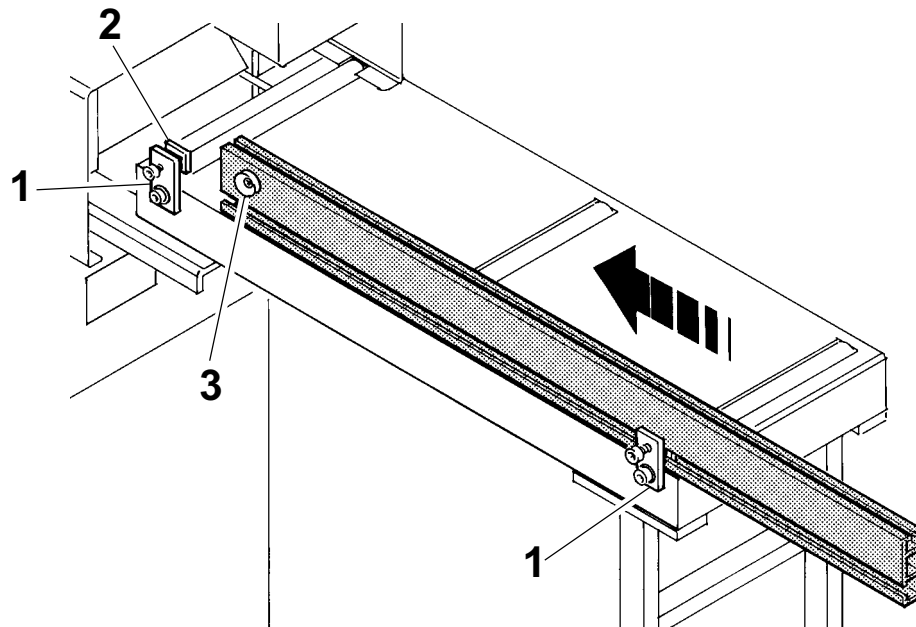

Fig. 4.2.4. Fitting the left-hand fence.
4.2.4 Fitting the left-hand fence (fig. 4.2.4)
- Undo the screws of the blocks (1) which fix the fence already fitted on the rear of the left-hand bench.
- Insert the two slide plates (2) in the fence rear guide and slide it along until the locator pin (3) is touching the presser support.
- Keeping the fence firmly positioned on the side and in contact, tighten all the fixing screws of the blocks (1) carefully.